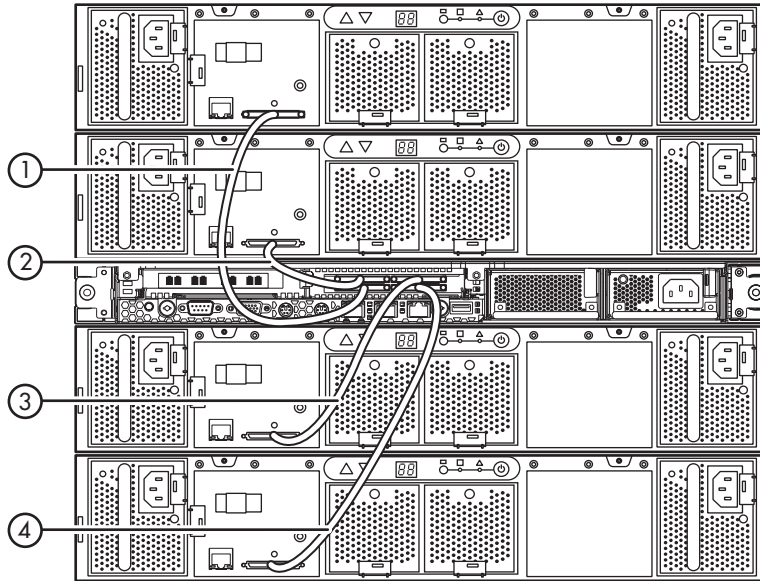

Figure 11 Connect the VHDCI connector on each disk array to the appropriate VHDCI connector on the node
3. Connect the VHDCI connector on each disk array to the appropriate VHDCI connector on the node (Figure 11).